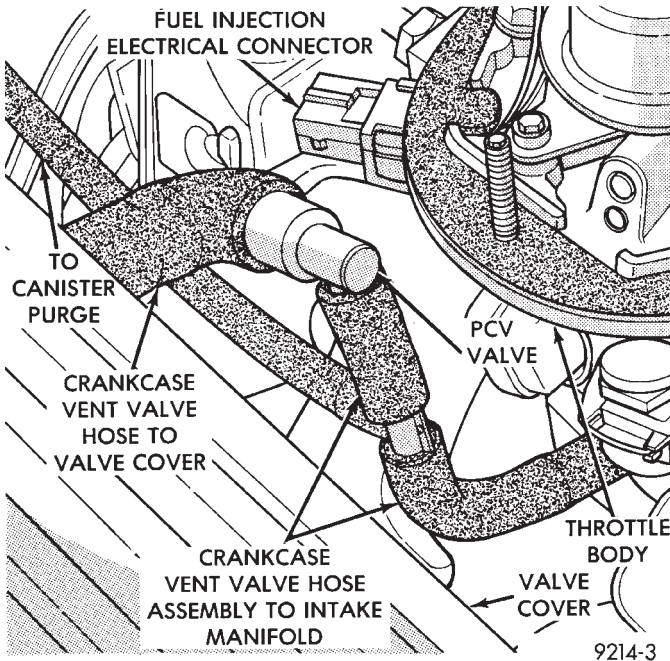

Fig. 9 Vacuum Hose from Intake Manifold to PCV Valve
(14) Verify the hose from PCV valve is securely attached to the intake manifold vacuum port (Fig. 9).